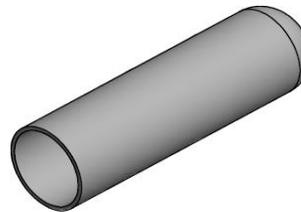

Figure 4
4. Install the Bullet Assembly Tool (**Figure 4**) over armature shaft then reassemble pump housing assembly.